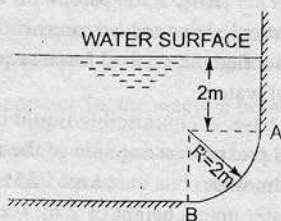

Fig. 3.57
18. Find the horizontal and vertical components of the total force acting on a curved surface AB, which is in the form of a quadrant of a circle of radius 2 m as shown in Fig. 3.57. Take the width of the gate 2 m.